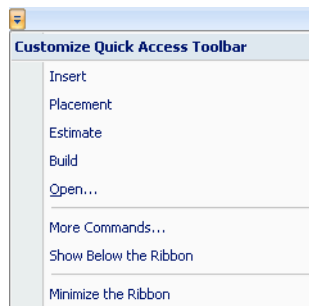

Figure 5-82: *Customize Quick Access Toolbar* menu
- From the *Customize Quick Access Toolbar* menu (see figure 5-82 on page 59), select **More Commands**.